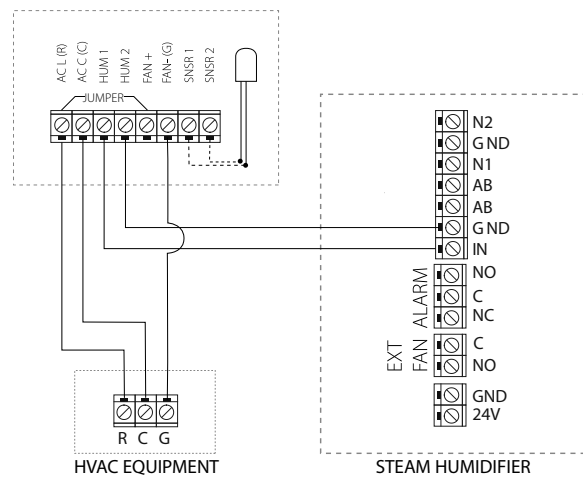

Fig. 3.t
4. Connect the GFX4 and steam humidifier to the HVAC equipment as shown in Fig. 3.s to activate the HVAC blower.